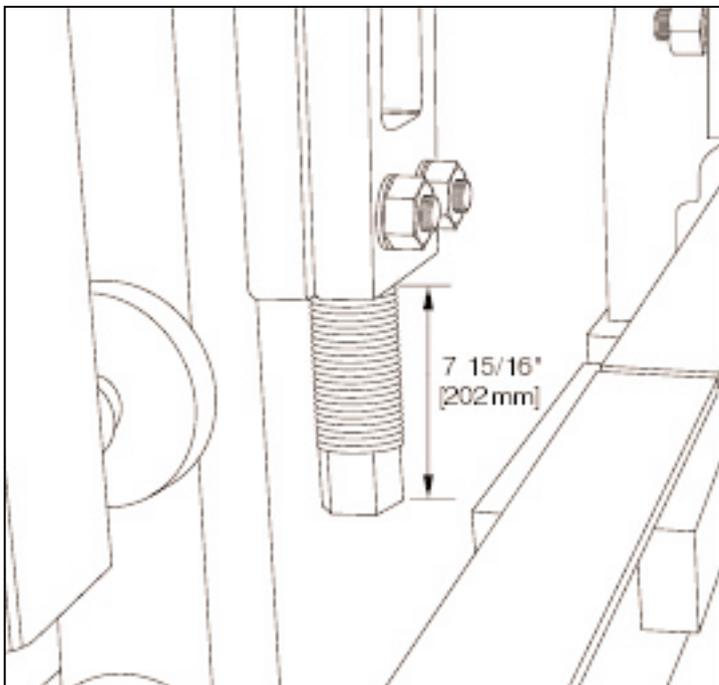

Figure 4.13 UPPER HEIGHT STOPS.
4.1.6 Adjust the upper height stops so that **7 15/16" [202mm]** extends past the bottom of the castings as shown on figure 4.13.